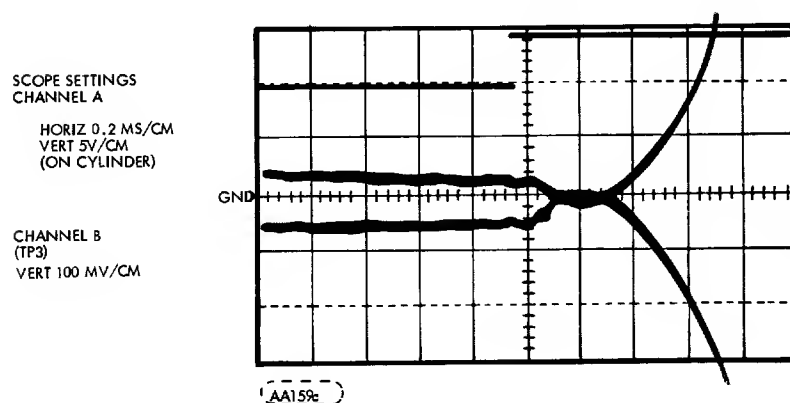

FIGURE 6-16C. TWO TRACK SEEK WITHIN TOLERANCE
24. Verify the adjustment again seeking from cylinder 000 to 002 and 400 to 402 (000 to 002 and 200 to 202 for 100 TPI units). It may be necessary to adjust R74 to bring both locations into adjustment (see Figure 6-16c).